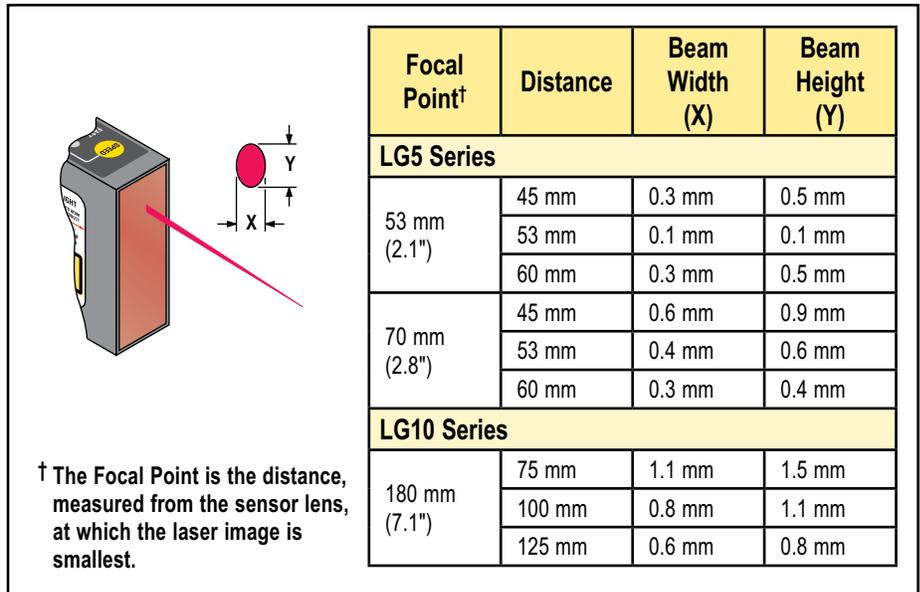

Figure 4. Beam dimensions (typical)
* The Focal Point is the distance, measured from the sensor lens, at which the laser image is smallest (see Figure 4).